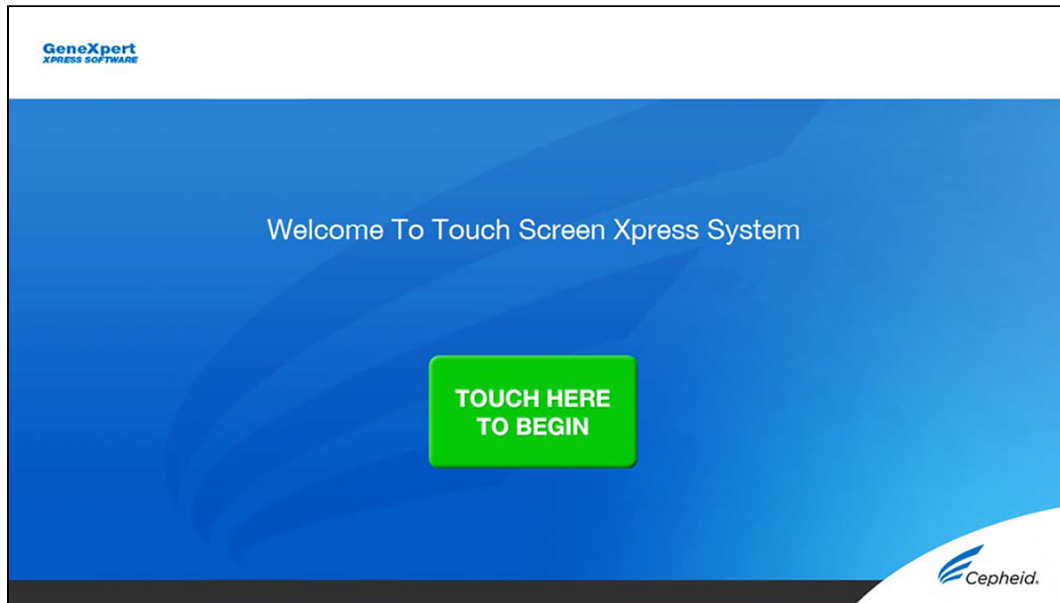

Figure 6. Welcome Screen
1. On the **Welcome** screen, touch the **TOUCH HERE TO BEGIN** button (see Figure 6).